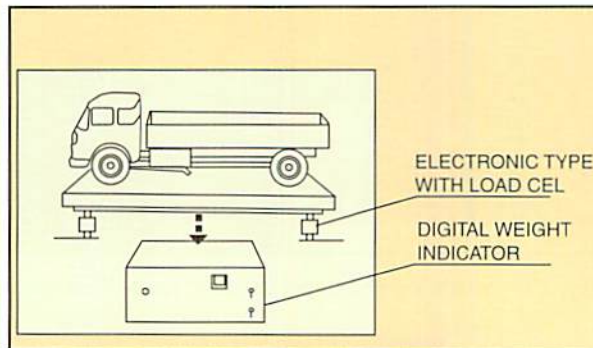
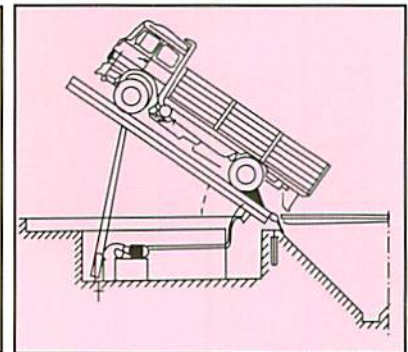

Fig 16. Platform scale
Fig. 17. Tipping into reception pit
- **First weighing** refers to the weighing at the reception point. This requires large scales as seed are usually received in bulk. The scale can be placed outside the plant as a platform or weighbridge scale (Fig. 16), or inside the plant as a hopper scale. The platform scale is more flexible to use than a hopper scale and is usually used for weighing heavy loads of incoming seeds received on trucks, trailers, or wagons (Fig. 17).